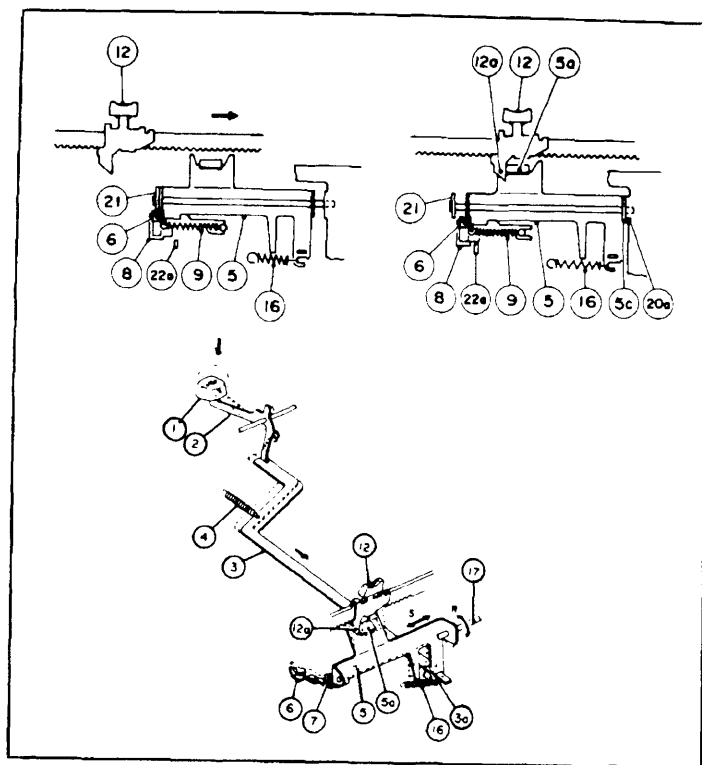

Fig. 2-15. Here, Olympia explains more fully the operation and principle of the margin release mechanism—read the text (courtesy of OLYMPIA USA INC.).
To study yet another margin release mechanism, see Fig. 2-15. When the margin release keybutton (1) is depressed, the margin link (3a) moves in the direction of the arrow to push the carriage stopper (5), and thus (5a) is released from the margin stop